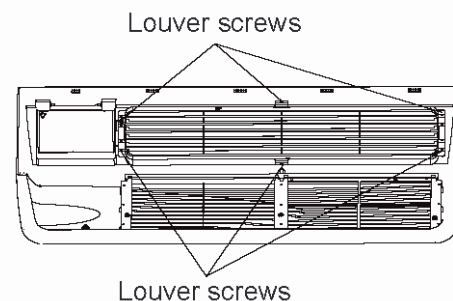

Fig. 6 — Discharge Grille Screw Locations
2. Remove and discard discharge grille by removing attachment screws from inside of front panel. See Fig. 6